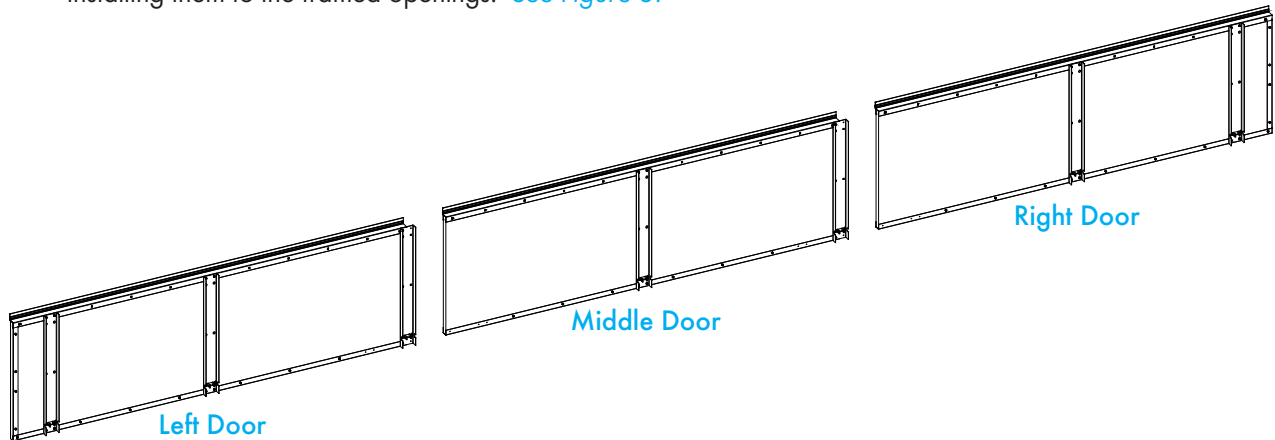

Figure 3
Each row of Tunnel Doors consists of (1) Left Door, several Middle Doors and (1) Right Door. The number of Middle Doors depends on the length of the run of Tunnel Doors. For example, if the run of Tunnel Doors is 40'L. then there is (1) Left Door, (2) Middle Doors and (1) Right Door. If the run is 60'L. then there is (1) Left Door, (4) Middle Doors and (1) Right Door. In the next steps all the doors will be assembled before installing them to the framed openings. See Figure 3.